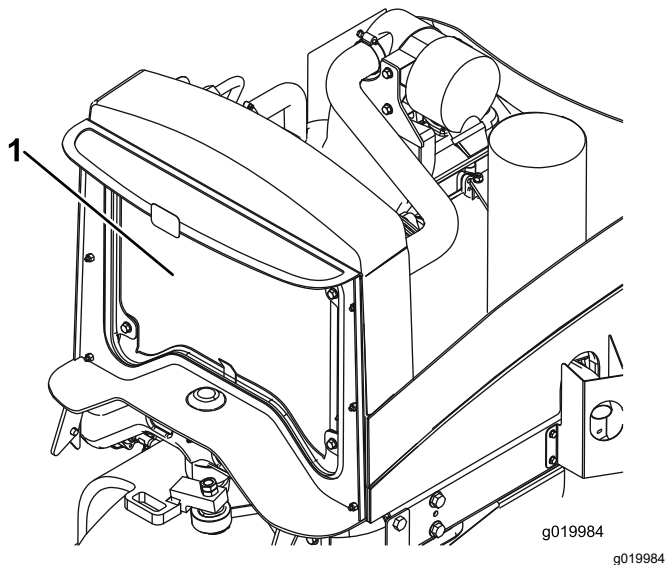

Figure 62
4. Clean both sides of the radiator thoroughly with compressed air (Figure 62).